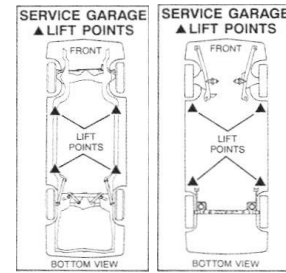

FIGURE 18 : TYPICAL LABEL DRAWING SEA J2184
THE LIFTING POINTS ARE IDENTIFIED BY HOLES, BOSSES, AND/OR DEPRESSIONS IN THE SHAPE OF AN EQUILATERAL TRIANGLE OR A SUPPLEMENTAL, SUCH AS A LIFT PAD, IDENTICAL TO THE TRIANGLE UNDER CAR BODY. REFER TO ALI/LP-GUIDE OF THE LAST 20 YEARS CAR MODELS. SEE **FIGURE 18**.
6. ALIGN THE 4 LIFTING PADS UNDER LIFTING POINTS RECOMMENDED BY VEHICLE'S MANUFACTURER. SEE **FIGURE 18**.